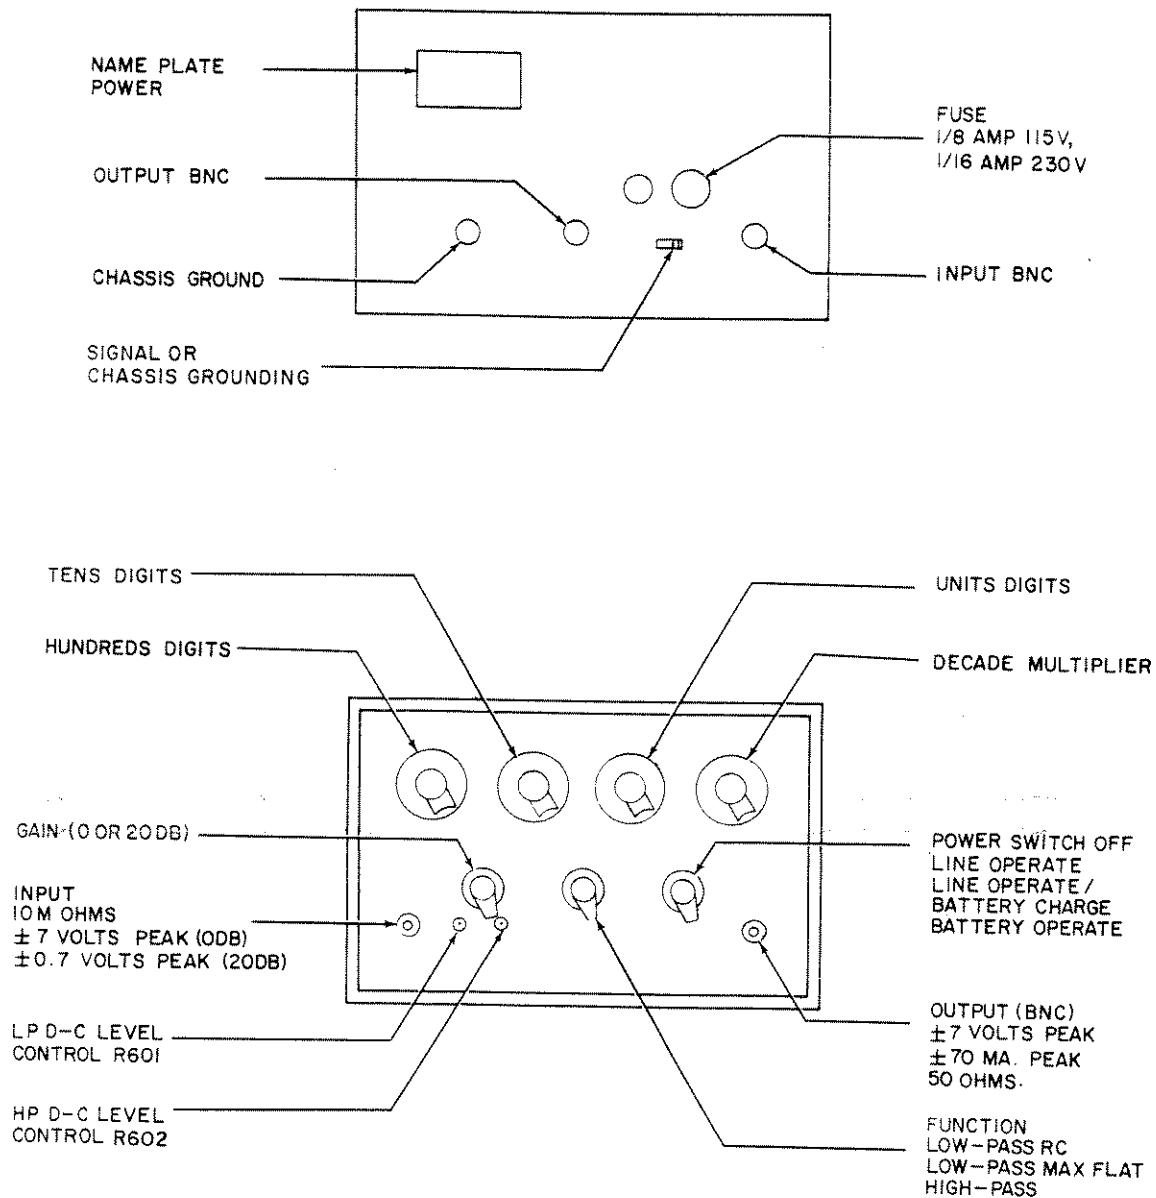

Figure 6. Controls and Connections for Models 3320, 3321, and Each Channel of Models 3322, 3323
The front panel of the Model 3320 (Model 3321) and each channel of the Model 3322 (Model 3323) include three rotary decade switches for frequency digits, a six position (five position - Models 3321 and 3323) rotary multiplier, a three position function switch, a two position gain switch, two BNC coaxial connectors for the INPUT and OUTPUT signals and screwdrive control adjustments for the output dc level in the Low-Pass (LP) and High-Pass (HP) functions. A four position POWER switch selects OFF, LINE, LINE OPERATE/BATTERY CHARGE or BATTERY OPERATE. See Figure 6.